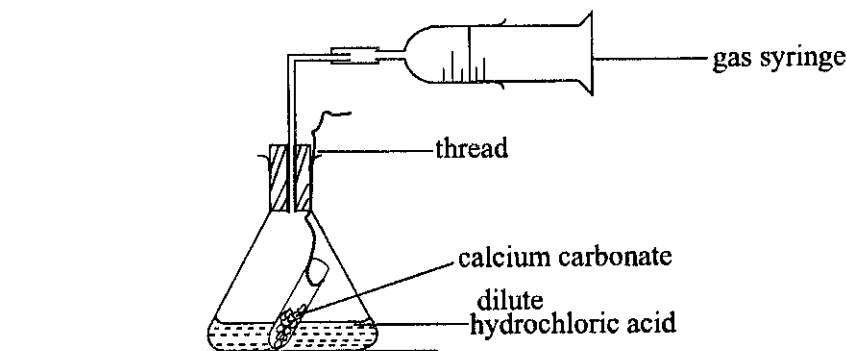

Fig. 11.11
5. The figure 11.11 shows the set up of the experiment used to study the rate of evolution of a gas when 1.0g of powdered calcium carbonate was reacted with 50cm³ of 2 M hydrochloric acid at 25 °C.